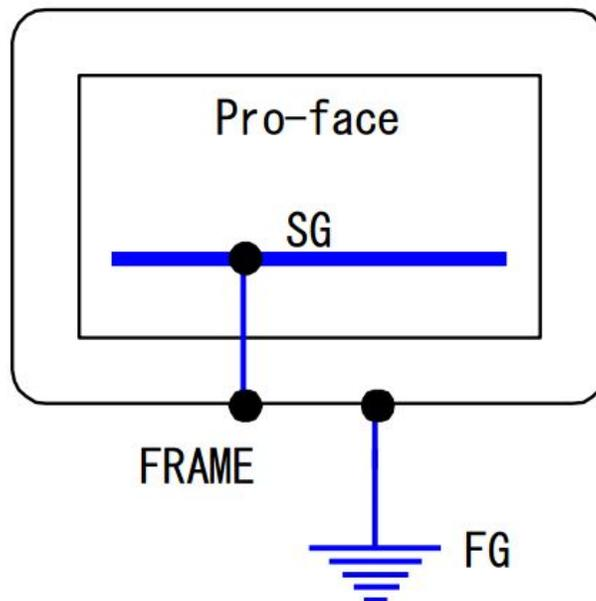

Figure 1: SG & FG connection.
- The SG line connects internally to the FG of the power connection (see Figure 1).